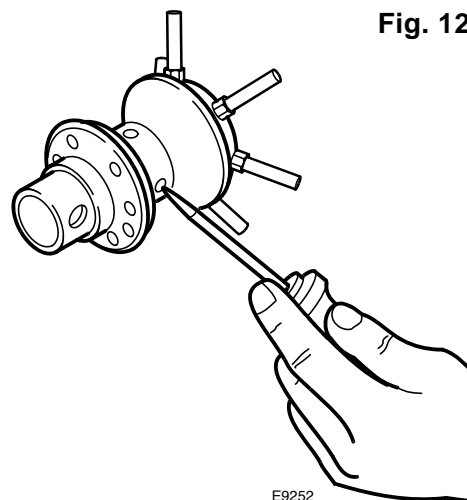

Fig. 12
- Check at regular intervals that the holes of the gas head are not obstructed. If they are, clean them with a suitable tool as shown in the figure 12.